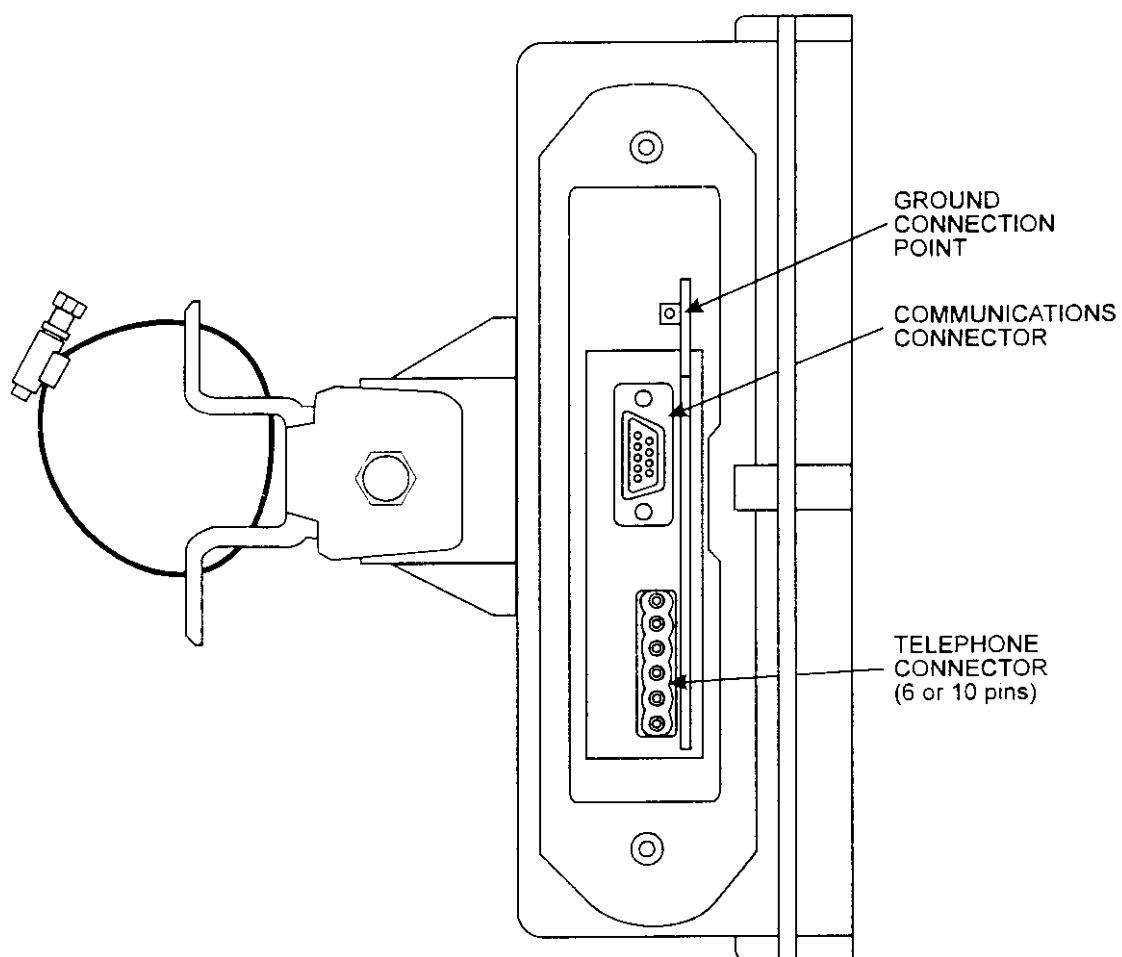

Figure 5-3. FAU with Front Cover Removed
- FAU Unit and FAU mounting kit (see Figure 5-3).
Figure 5-3 shows the FAU with its front cover removed to reveal the WAGO-231 connector for the telephone line (and the power supply) and the D-type communications connector.
- b. Connect the communication cable to the FAU and computer (see Figure 5-3).
- h. Connect the telephone connector to the FAU (see Figure 5-3).